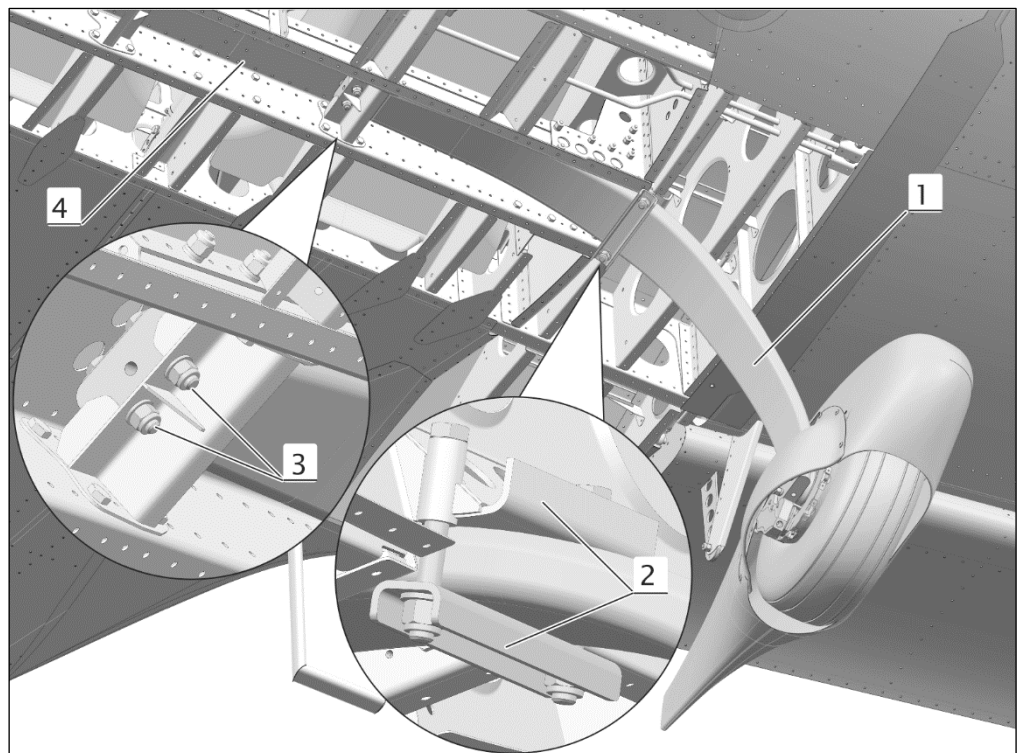

Figure 2
The landing gear legs (1, Figure 2) are inserted in the gear channel (4) under the seats, where they are attached by two bolts (3) and stirrup (2).
See Figure 2.